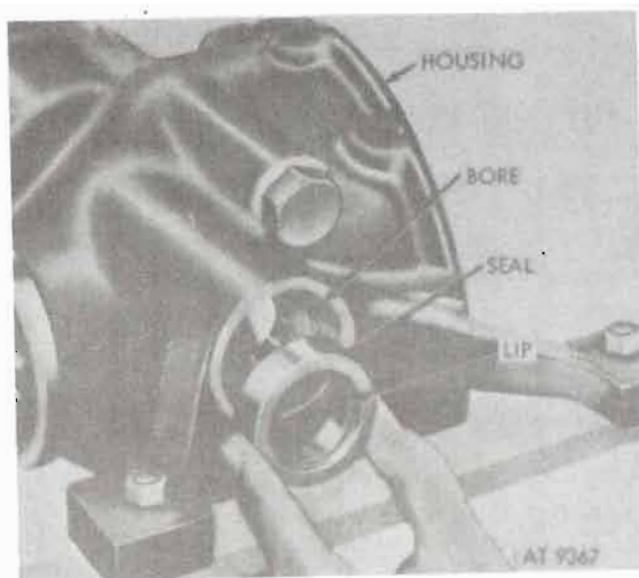

Figure 12-48. Pinion shaft rear bearing seal.
c. Position seal in housing bore (spring toward inside). Lubricate lips of seal with grease (GAA), and coat outside of seal with compound sealer (FSN 8030-656-1426) (fig. 12-48).